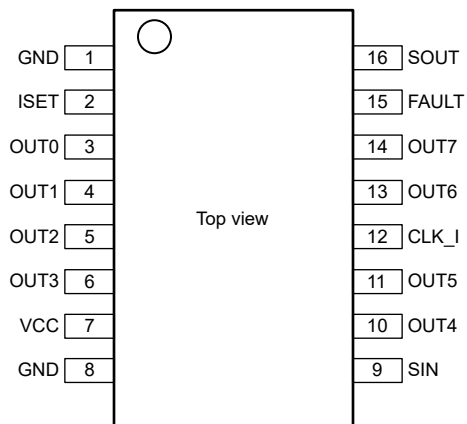

Figure 4-2. Pin Diagram (SOT-23-THIN (16) Package)
4.2 SOT-23-THIN (16) Package
Figure 4-2 shows the TLC69621-Q1 and TLC69631-Q1 pin diagram for the SOT-23-THIN (16) package. For a detailed description of the device pins, see the *Pin Configuration and Functions* section in the TLC69621-Q1 and TLC69631-Q1 datasheet.